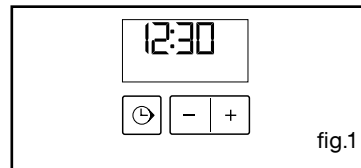
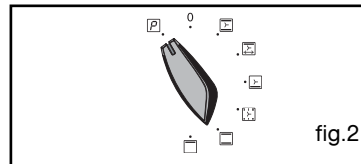

fig.1
fig.2
Check that the programmer is displaying the time of day and that it is not flashing. (fig.1). Simply turn your cooking selector switch to the  "Pyrolysis" position (fig.2).
- b) Unscrew the lighting port (fig.1).